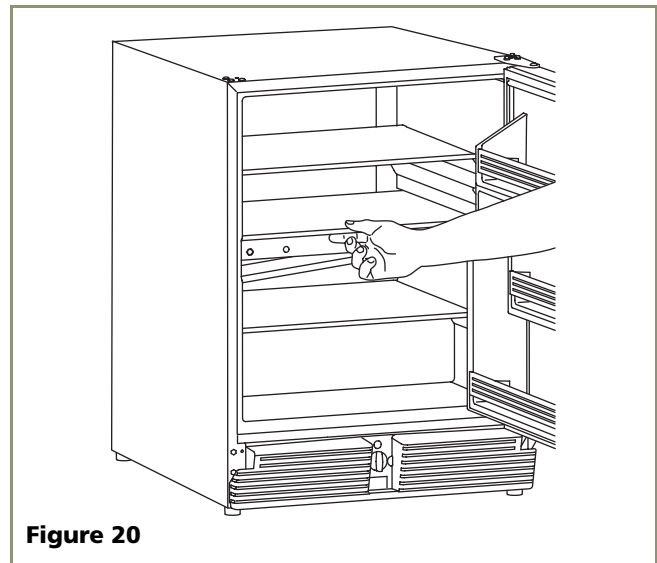

Figure 20
2. Slide the shelves onto lower sets of ribs, making sure the decorative graphics are on the underside of the shelves. While edge strips go toward the rear and silver edge strips go toward the front. See **Figure 20**.